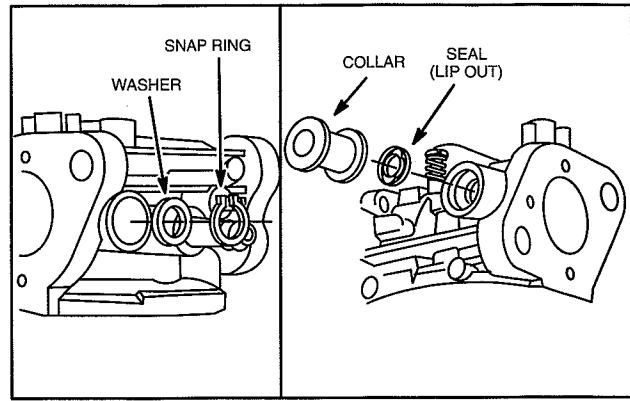

Fig. 12 – Remove Throttle Shaft
10. Remove snap ring and washer, Fig. 12.